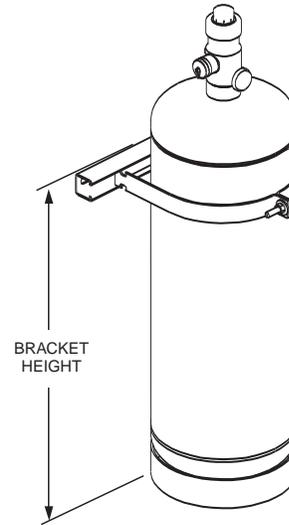

FIGURE 1
1. Mount the back channels (supplied by others) for the mounting brackets to a rigid, vertical surface at the appropriate height. See Figure1. Make certain to use suitable fastening hardware. **Note: If manifolding is being utilized, make certain tank brackets are spaced properly to accommodate the manifold inlet spacing.**